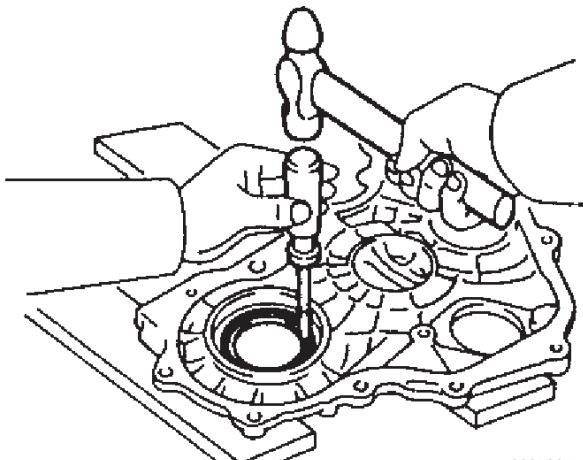

Figure 5-207
1. Tap out of the oil seal using a screwdriver and hammer (**Figure 5-207**).